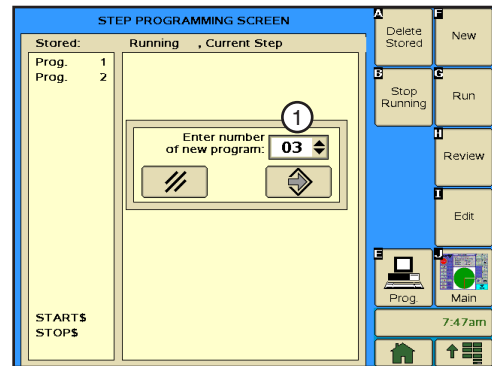

Figure 130-2 1. New Program Number Field
- Program the position condition for this step. Refer to Figure 130-2.